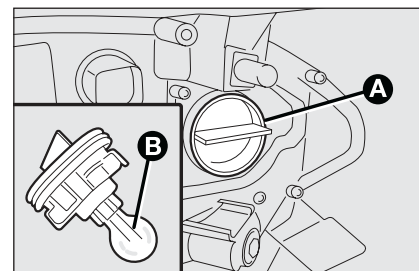

fig. 26
- ☐ remove the bulb **B-fig. 26** and replace it;